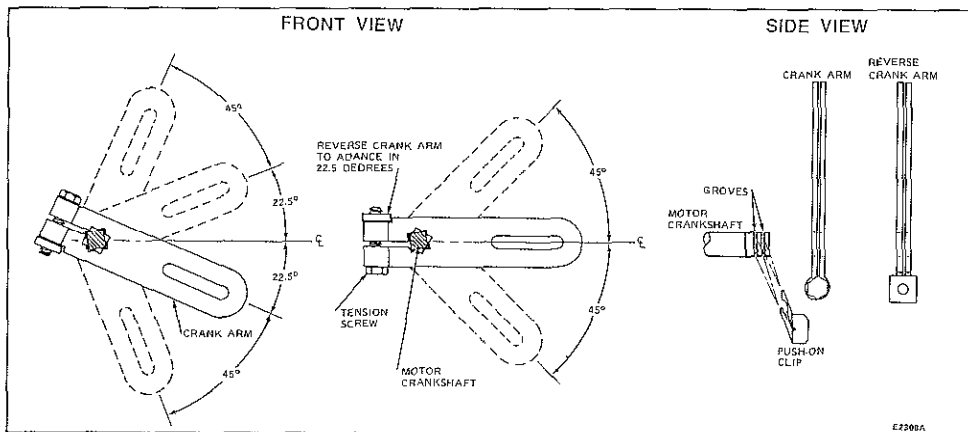

Fig. 1—Arrangements of parts. Clip to fit in either groove, as shown.
1. Installing the crank arm on the shaft (see Fig. 1). When correct installation is made, the shaft end will be flush with, or projecting from the hole in the crank arm.